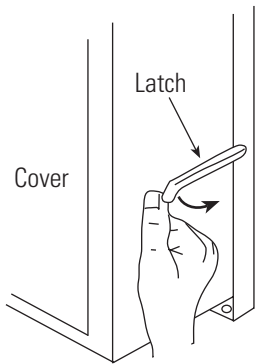

Figure 17: Removing the control panel cover
3. Release the two latches on the control panel cover and remove it. See Figure 17, left.